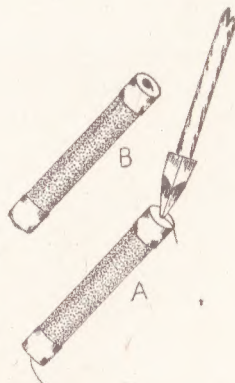

Fig. 3—Soldering repairs
The soldering is best done with the point of a small iron and a piece of resin cored solder. Get the iron of the correct heat and well tinned, then apply a little solder on the end of the cartridge on the wire, as indicated in view (A) Fig. 3. Both ends are, of course, soldered and the finished job is left as indicated in view (B) Fig. 3.